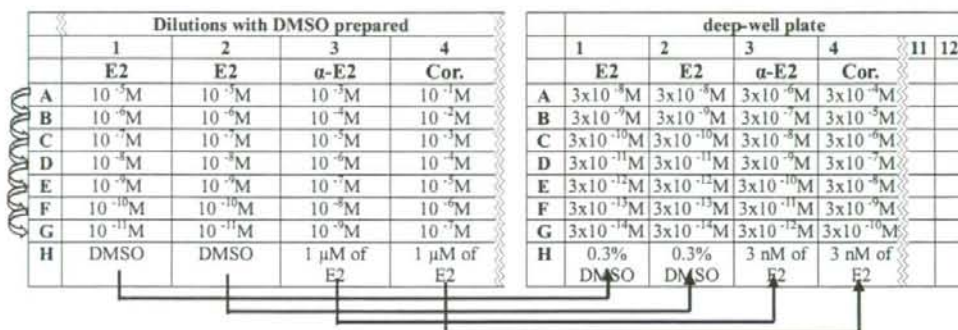

Fig. 4 Dilution plate layout (left: DMSO dilution, right Medium dilution)
6.2.2. Preparation of DMSO Dilutions of the test chemicals in a 96-well plate (Fig. 4)
6.2.3. Dilution in a 96-well deep-well plate "with medium" (Fig. 4)